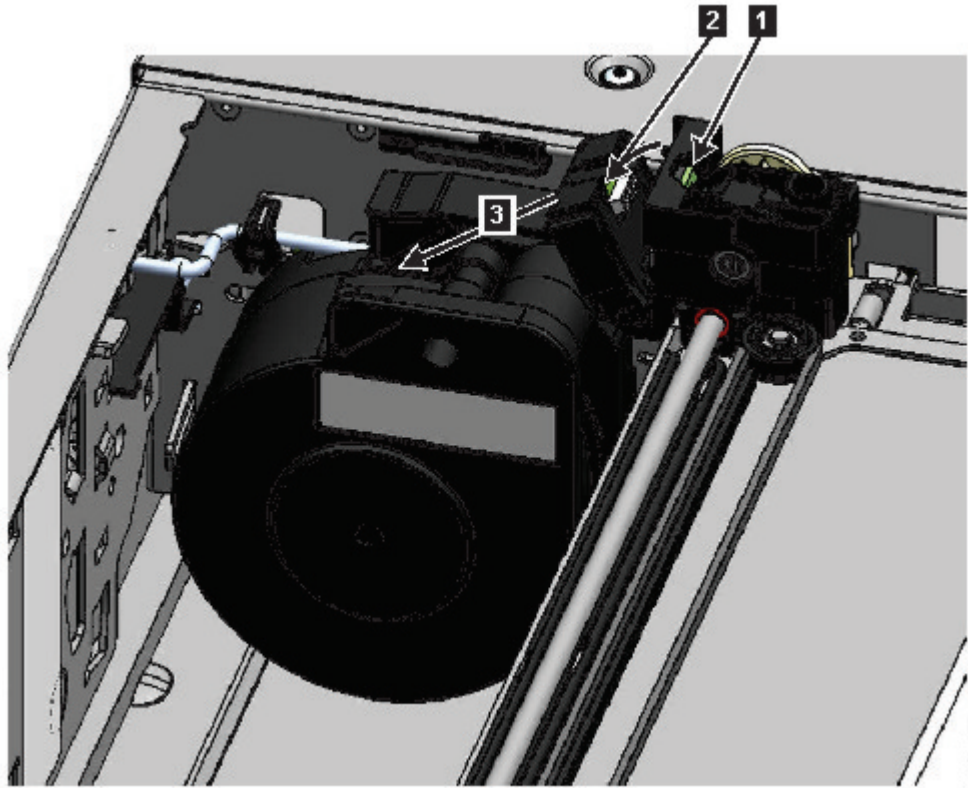

Figure 74. Unlocking the spooling cable and placing it in its cradle
7. On the top of the accessor where the spooling cable is attached, press down on the latch (**1** in Figure 74 on page 123), then tilt out the piece that holds the spooling cable (**2**).
8. Lift the spooling cable from the accessor and place it in its cradle at the top of the spooling mechanism (**3** in Figure 74).